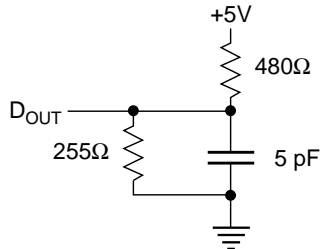

Figure 2. Output Load Equivalent
5. The parameter is tested with CL = 5 pF as shown in Figure 2. Transition is measured ±200 mV from steady state voltage